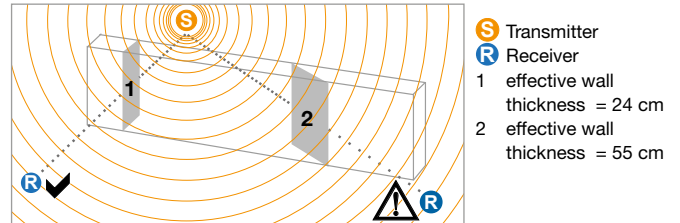

Figure 3: Effective wall thickness for radio propagation
- The connecting line between the radio transmitter and the radio receiver should be selected so that any path through masonry or other attenuating materials is as short as possible (see Figure 3). It is particularly important to avoid niches in walls, since they obstruct the propagation of radio waves.